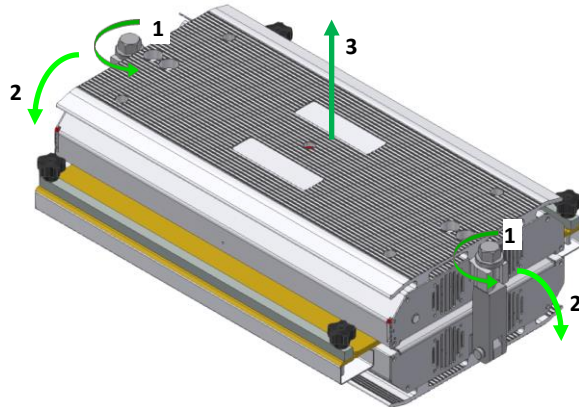

Fig. 8-1 – Opening the press
- Using the supplied ratchet wrench, loosen the press lock nuts, one on each side (ref. 1, Fig. 8-1);
- Remove the pins from the seat (ref. 2, Fig. 8-1);
- Lift the upper plate of the press (ref. 3, Fig. 8-1);